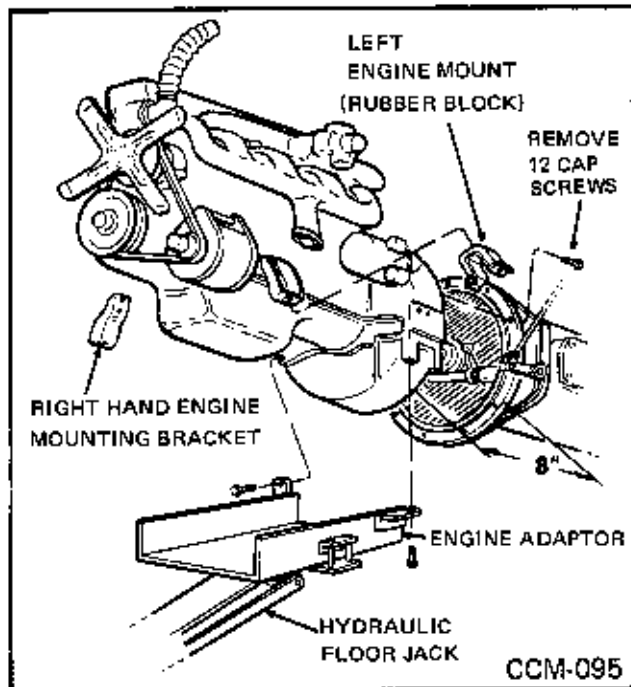

Fig. 90
11. Fasten engine adapter to engine by using the two (2) engine bolts (Fig. 90) and place slight tension on jack.
12. Remove left engine mount (rubber block) by removing three (3) hex nuts allowing rubber block to come out.
13. Remove right engine mounting bracket from engine and rubber block by removing two (2) capscrews and one (1) hex nut, leaving rubber block in place. (Fig. 90)
15. Remove 12 capscrews holding transmission to engine bell housing. (Fig. 90)
16. Move engine forward on hydraulic jack in a horizontal line with transmission shaft until clearance is about eight (8) inches. (Fig. 90)